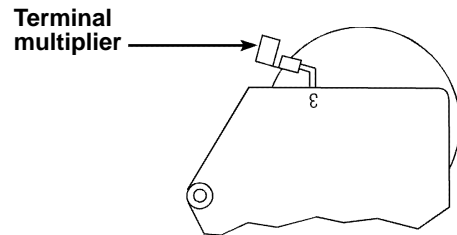

Figure 12
Some models require two (2) cabinet lead connectors for timer terminal 3. Attach terminal multiplier and reform. Adjust so connector does not touch cabinet or other metal parts. See Figure 12.